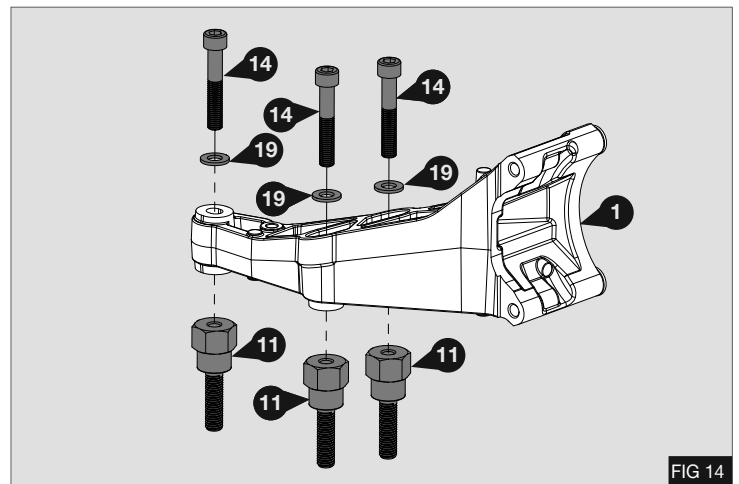

FIG 14
- Install the mount bracket (1) to the threaded pillars (11) using bolts (14) with washers (19). Tighten the 3x bolts hand tight so that they only allow **side to side** movement of the bracket (1) – Fig 14